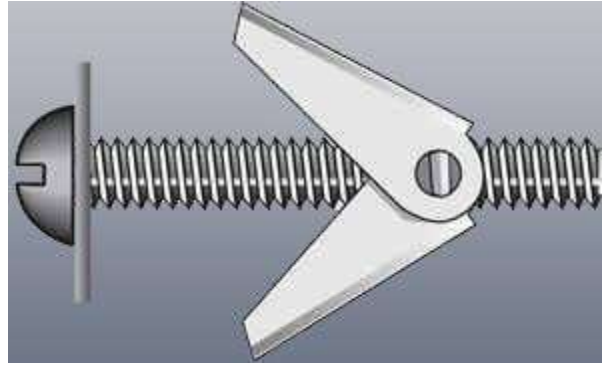

Fig 1
6. Insert each bolt through a flat washer and into a wing nut. Thread the wing nut on the bolt far enough that it will not fall off the bolt during installation as shown in fig 1.
10 Installation Procedure Fig 1 & 2